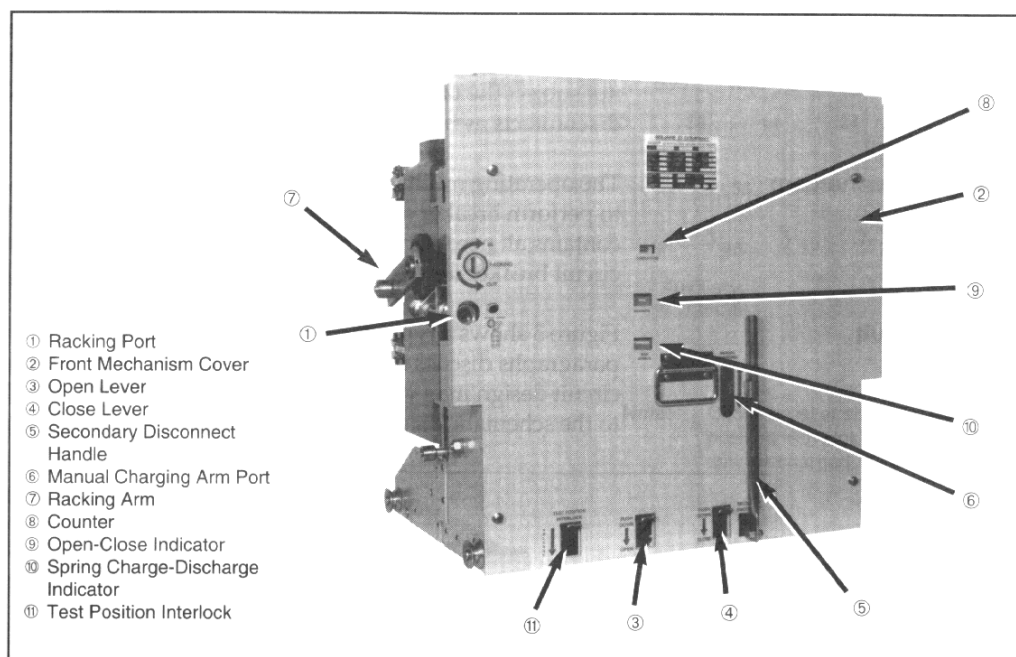

Figure 1: Circuit breaker, front view
4. Press down on the test position interlock (figure 1, page 5) at the lower left front of the circuit breaker; roll the circuit breaker out of the cell.